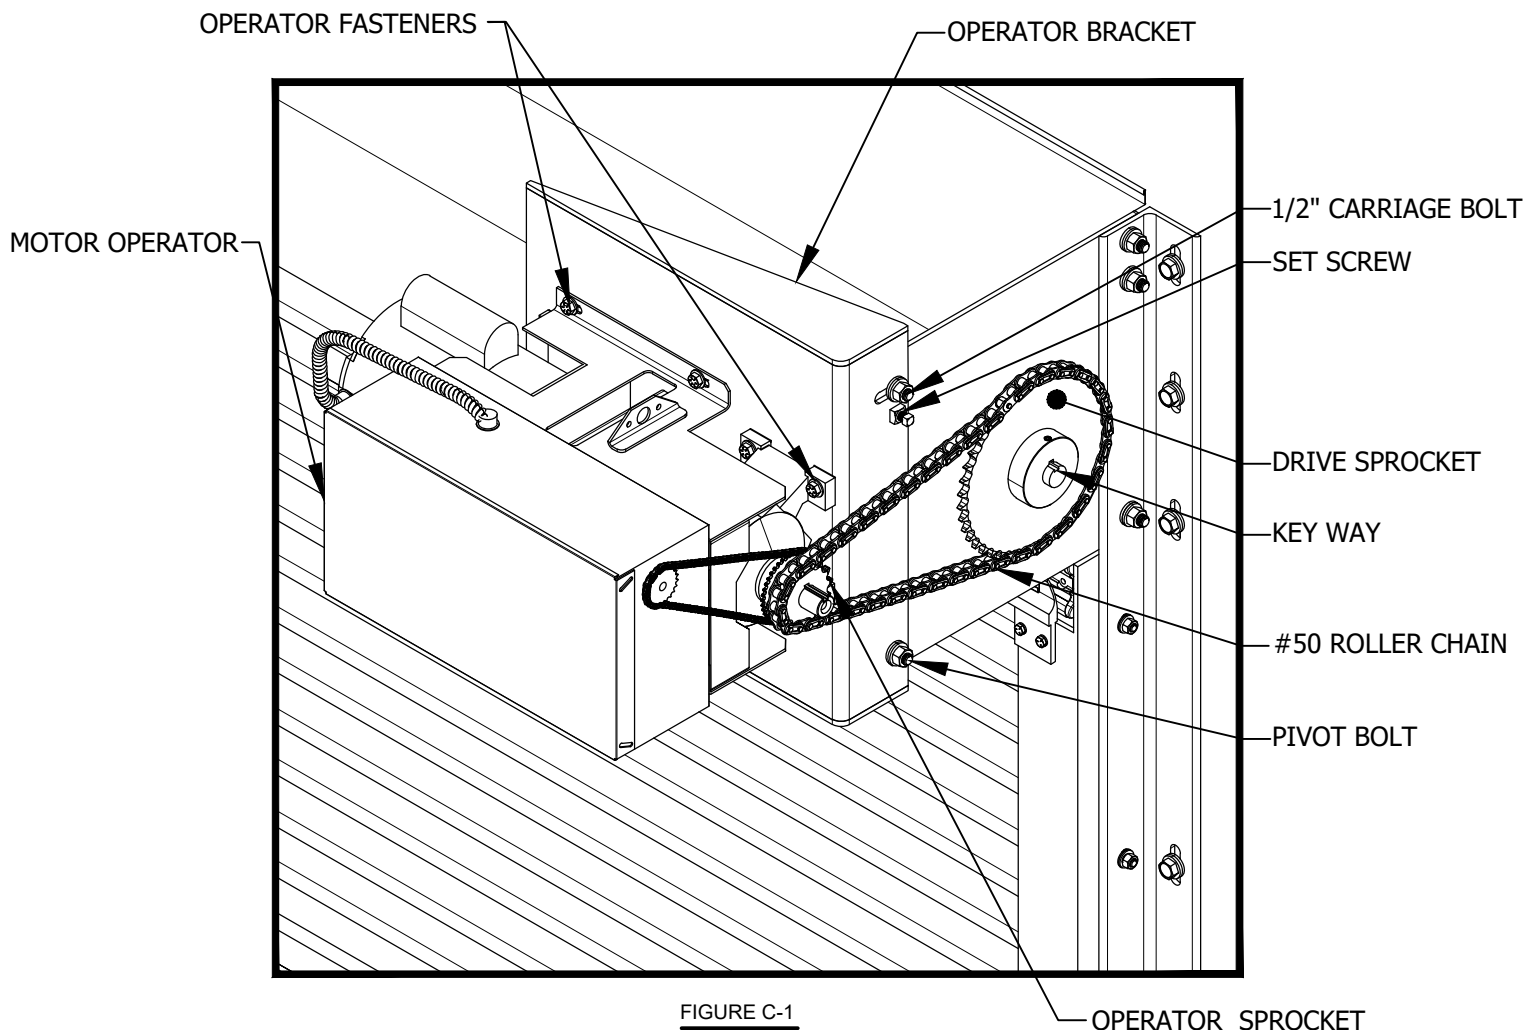

FIGURE C-1
- a. Attach the operator to bracket using the supplied hex bolts, flat washers, lock washers and hex nuts as shown in Figure C-1.
- b. Install motor operator and bracket assembly to the drive side headplate with two 1/2" -13 NC X 1 1/4" carriage bolts as shown in Figure C-1.
- c. Push the assembly toward wall as far as possible for drive chain installation, and temporarily secure the two carriage bolts as shown in Figure C-1.